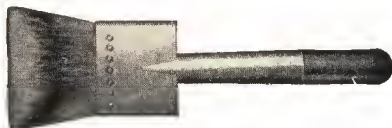

FIG. 25
**Flowing Brush, Figure 25:** A badger flowing brush with a casing of badger hair and the middle a mixture of badger hair and French bristle, very elastic and generally used by automobile finishers in applying colored varnish and finishing coats.